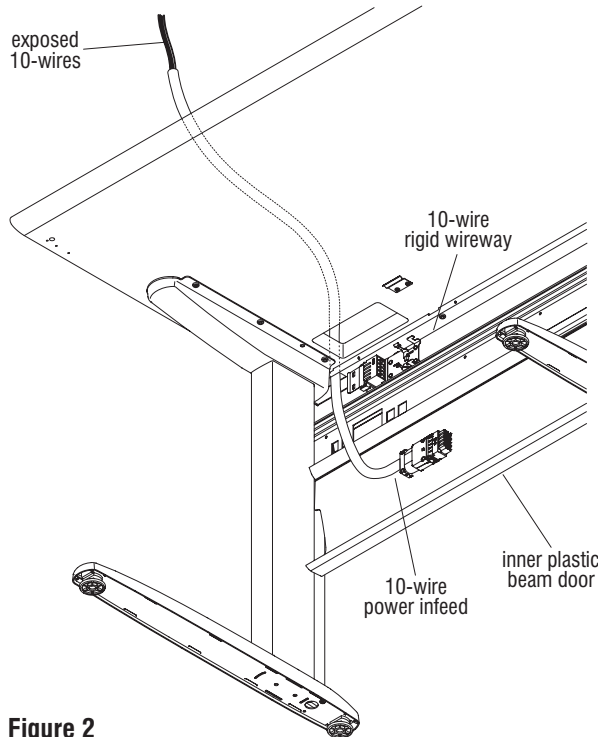

Figure 2
1. Un-clip and open inner beam door at underside of worksurface to expose the 10-wire rigid wireway (Figure 2).
2. Route the flexible conduit and exposed 10-wires end up into the cut-out in the data trough and through the top infeed cutout hole in the worksurface. Once the entire flexible conduit is fed up the hole, make sure the arrow faces up, and plug the power infeed connector into the factory installed 10-wire rigid wireway (Figure 2).